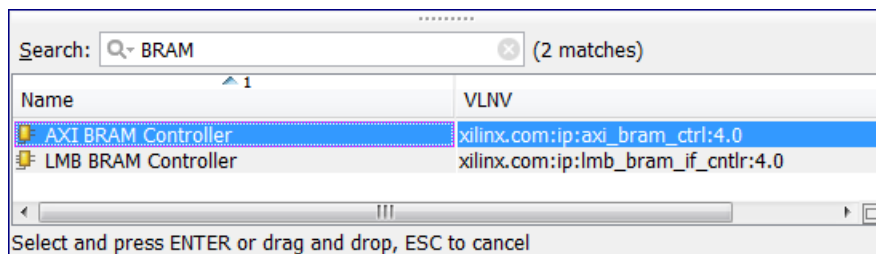

Figure 109: Add BRAM Controller
2. Likewise, add the AXI BRAM Controller (**FIGURE 109**).